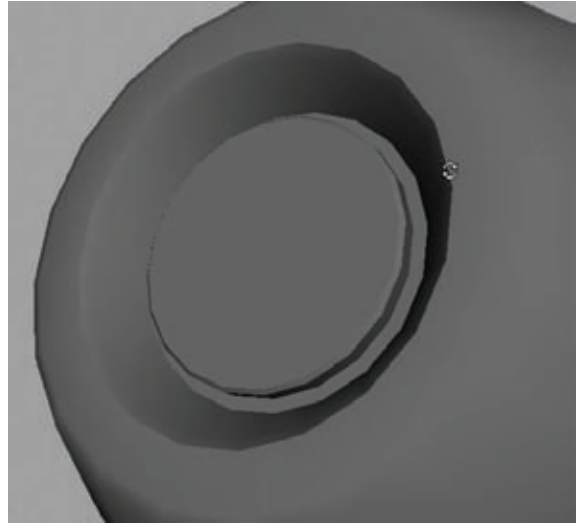

Figure 8.10
4. Select both cap faces again, if they aren't already selected. With a series of Extrudes and Bevels, create indentions on both ends of the capsule that look like the one in Figure 8.10—a rounded indentation with a small “shelf” raised inside. In a later step, you'll be adding a little window into the device on these surfaces.